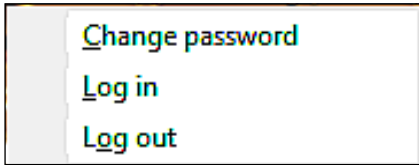

Figure 7. The Login pop-up box for password-protected user accounts
When you are logged in with a password-protected user account, the Login pop-up box (accessed by right-clicking the User rights status bar field) will include an option to change your password (see Figure 7). Click this option if you wish to modify the existing password. The system will prompt you to enter the existing password, then the new password, two times, for confirmation.
2. Click **Log out** in the pop-up box (see Figure 7). In the 'By level' user login scheme, your access level will automatically revert to Operator.
- ① *In the 'By user name' user login scheme, Administrator- and Service-level users can set up new user accounts.*
- ① *In the 'By user name' user login scheme, whenever a user logs off the system, another user must be logged on. In this login scheme, the user software is non-operational unless someone is logged in.*